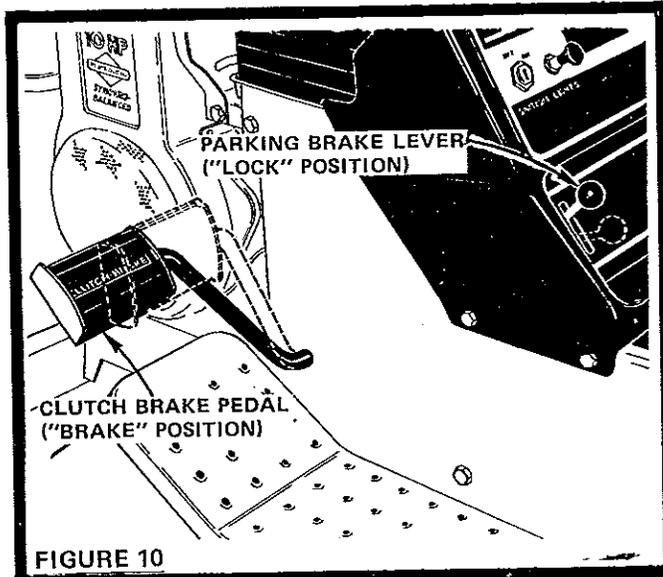

FIGURE 10
2. Push Clutch-Brake Pedal fully into brake position (Fig. 10).
2. Push Clutch-Brake Pedal down firmly to unlock Parking Brake and hold it in Brake position (Fig. 10).